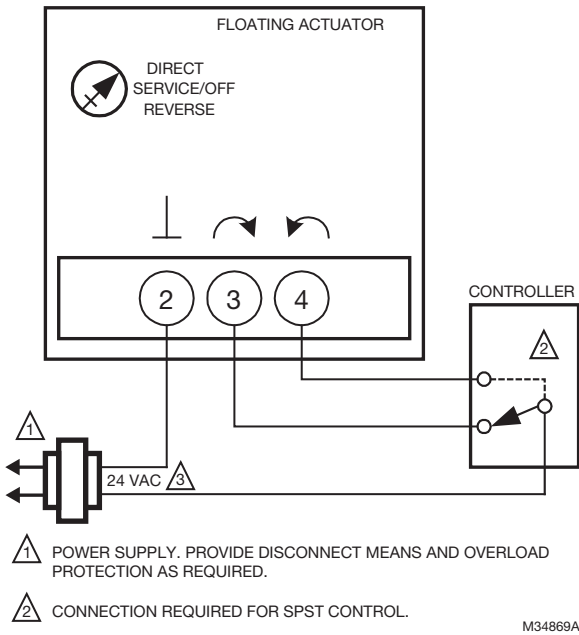

Fig. 6. MN6105 with On/Off SPDT Control.
2. Wire actuator using Figures 6 through 29 for the application required.